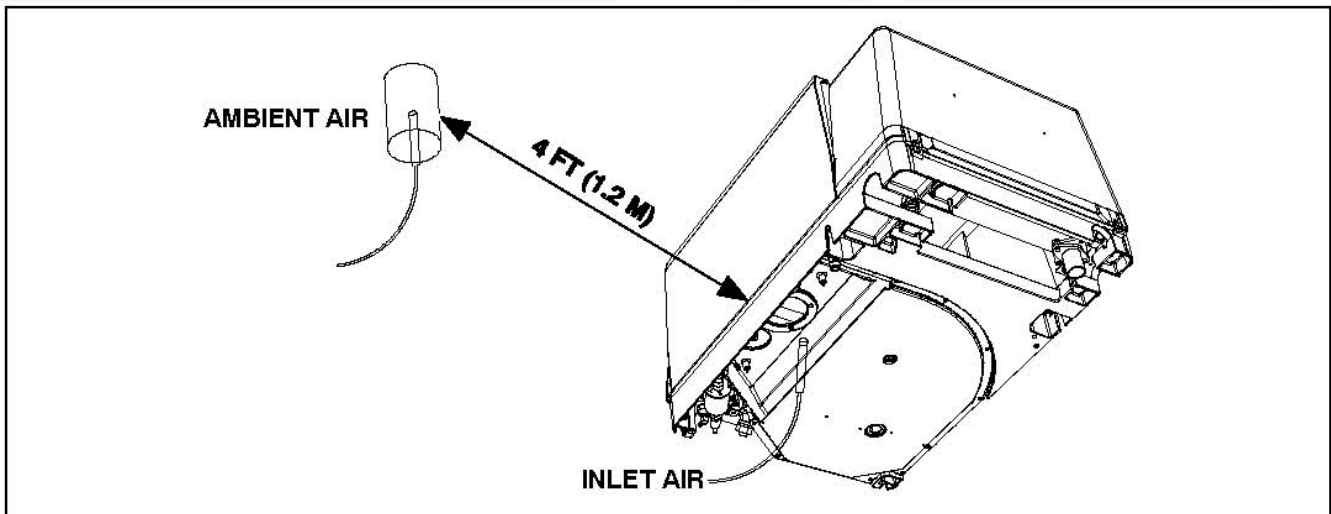

FIGURE 38. THERMOCOUPLE LOCATIONS FOR HOT AIR RECIRCULATION TEST
- a. Measure generator set inlet air temperature with one thermocouple tied in the middle of the inlet air grille (Figure 38).